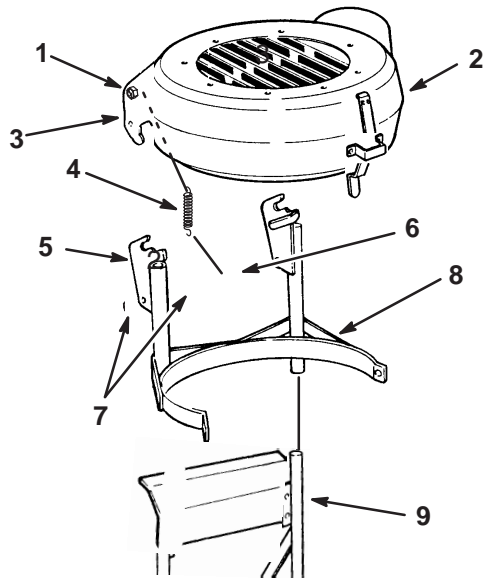

Figure 14
5. Align the canister support over the bagger mount tubes and slide it down onto the bagger mount (Fig. 14).
12. Install the upper pivot brackets and attached top assembly onto the lower pivot brackets on the canister support so the 3/8"-16 x 1-1/4" (32 mm) top bracket pivot bolts fit into the notches in the lower pivot brackets (Figs. 14 and 15).
13. Hook the springs over the bolt heads on the upper and lower spring anchor bolts on the pivot brackets (Figs. 14 and 15).